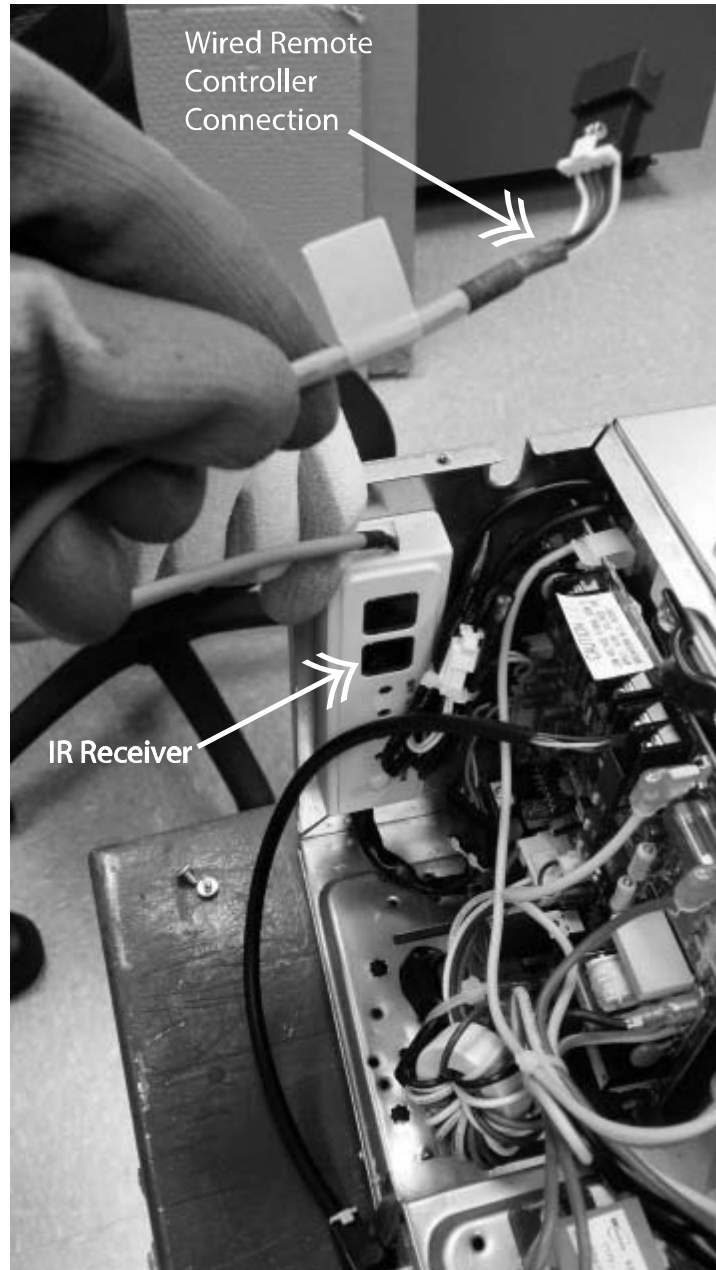

Fig. 37 – Control Box
**NOTE:** If a wireless remote controller is used, relocate the IR receiver within line of sight of remote location using the 6 ft. cable included. The factory location of the IR receiver is inside the control box (see Fig. 37).